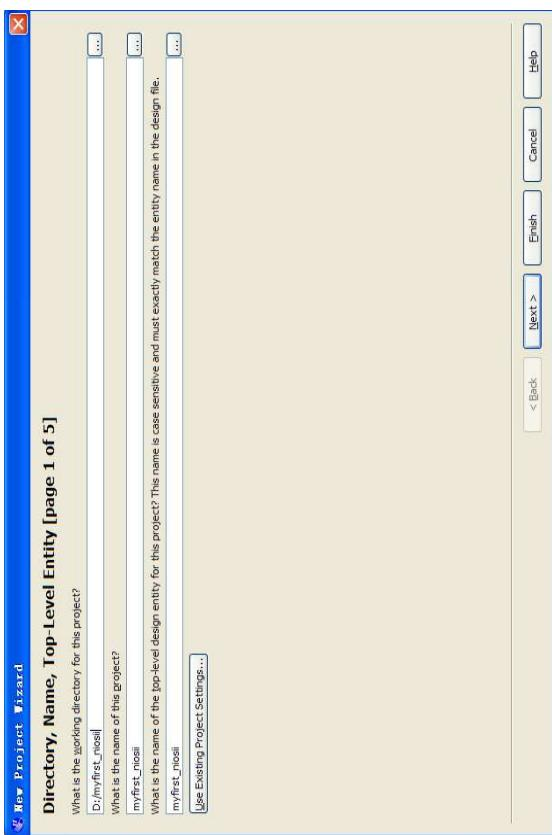
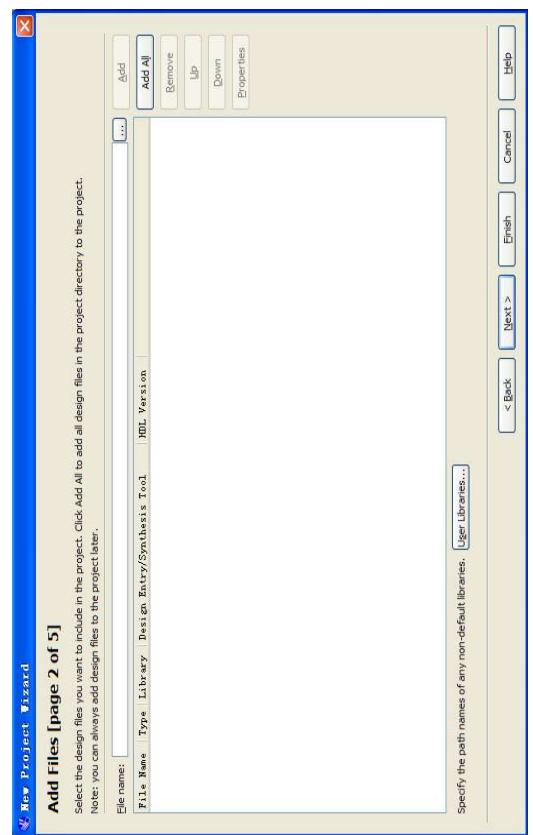

Figure 7-3 Input the working directory, the name of project, top-level design entity
Figure 7-4 New Project Wizard: Add Files [page 2 of 5]
- Select a working directory for this project, type project name and top-level entity name as shown in Figure 7-3. Then click **Next**, you will see a window as shown in Figure 7-4.